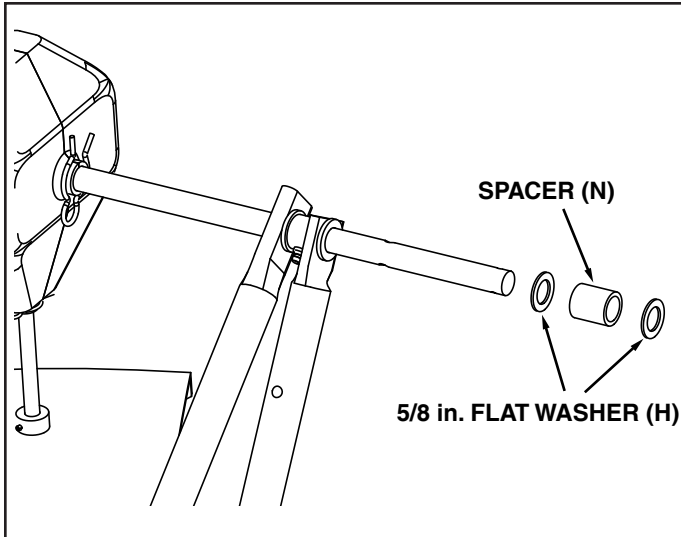

FIGURE 1
2. With the spreader resting upside down on the top of the hopper, assemble a 5/8 in. flat washer, a spacer and a second 5/8 in. flat washer onto each end of the axle. See figure 1.